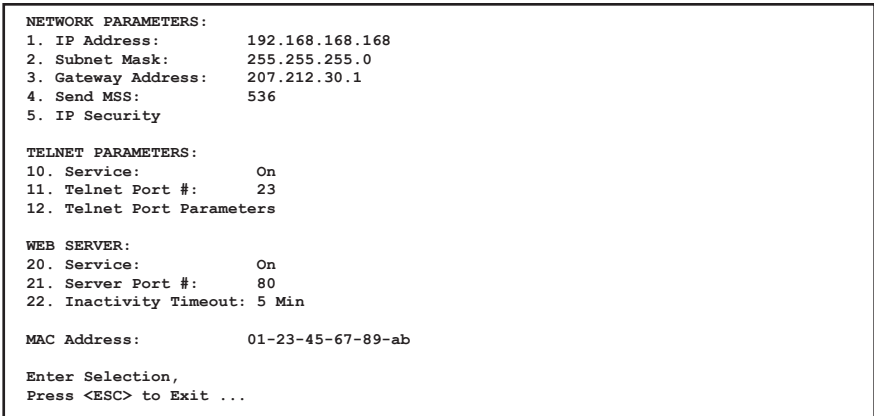
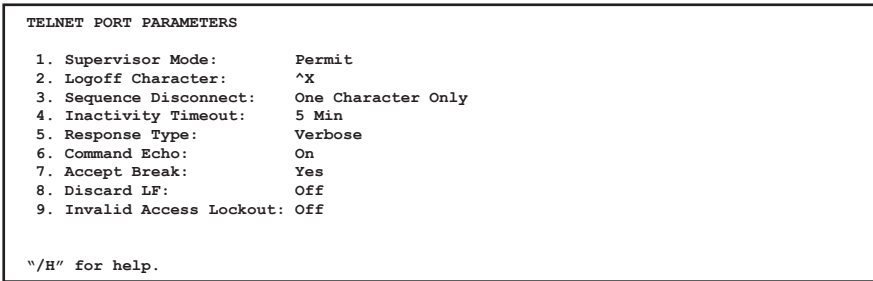

Figure 5.10: Network Parameters Menu - Text Interface
Figure 5.12: The Telnet Port Parameters Menu - Text Interface
- **Text Interface:** Type **/N** and press **[Enter]**. The Network Parameters Menu will be displayed as shown in Figure 5.10.
- **Text Interface:** Type `/N` and press **[Enter]** to access the Network Port Parameters Menu (Figure 5.10.) From the Network Port Parameters menu, type `12` and press **[Enter]**. The Telnet Port Parameters Menu will be displayed as shown in Figure 5.12.